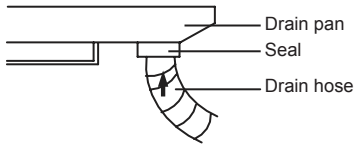

Fig.4.21
- (1). For determining the position of the drain hose, perform the following procedures.
- (2). Insert the drain pipe to the drain outlet of the unit and then tighten the clamp securely with tape. (Fig.4.21)
- (3). Connect the extension drain pipe to the drain pipe and then tighten the clamp with tape.